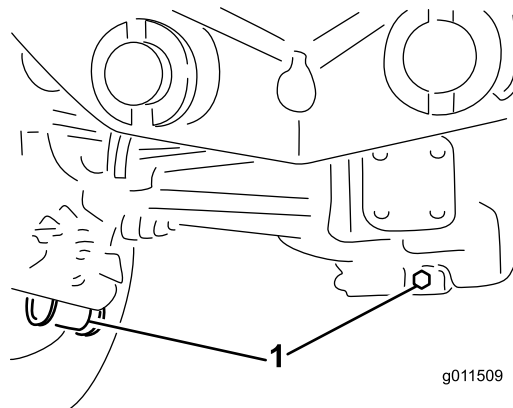

Figure 96
2. Clean the area around the 3 drain plugs; 1 on each end and 1 in the center (Figure 96).